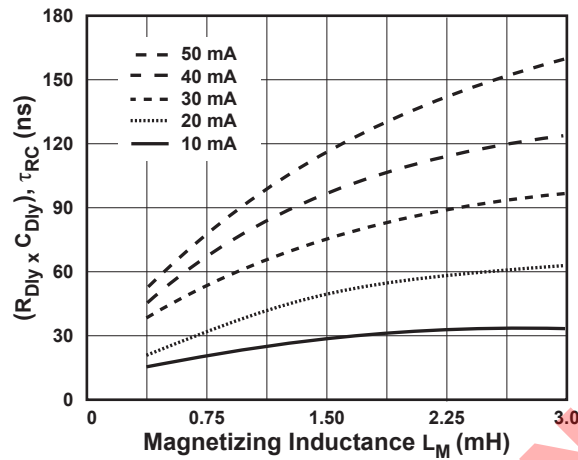

Figure 11.0.7.  $T_{ON}$  Compensation Chart
2. Find the curve that best matches this difference from Figure 11.0.7.
Solving for  $C_5$ , we get 44 pF. The result should be a match between high line and low line constant current curves. See figure 11.0.7 for details.